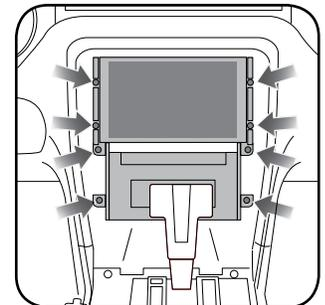

Fig. 1.6
6. Remove (8) 7mm screws securing the screen and radio chassis, then unclip and remove them. Remove the mounting brackets from the screen and radio chassis. (Fig. 1.6)